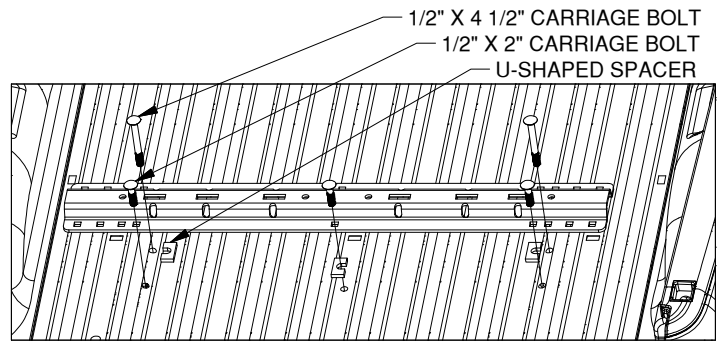

Figure B1: View looking into truck bed from rear of truck.
1. **The rear mounting rail.** Re-position the rear mounting rail over the drilled 9/16" holes in the bed. Install two 1/2" X 4 1/2" carriage bolts into the two forward drilled positions (holes over the crossmember) and Install three 1/2" X 2" Carriage bolts through the three rear drilled positions, as shown in figure B1. Place U-shaped washers between the bed and the mounting rail. two spacers (as near as possible) by the 4-1/2" carriage bolts and one spacer around middle carriage bolt.